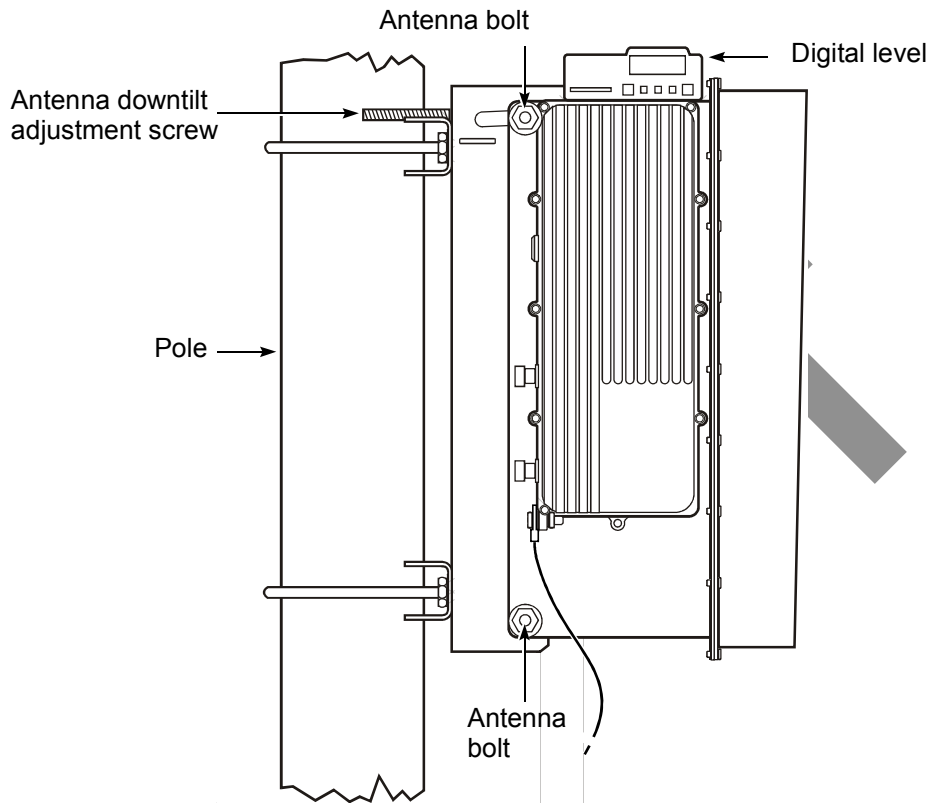

Figure 18 – Antenna downtilt adjustment screw
1. Place a digital level on the top of the X-Pol RBS Tx or X-Pol RBS Rx antenna (see *Figure 18*).
3. While observing the digital level, adjust the downtilt adjustment screw (see *Figure 18*) until the downtilt meets the angle required by cell planning analysis.